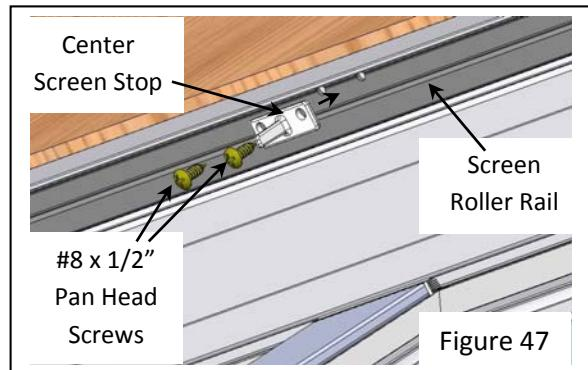

Figure 47
34) Install the center screen stop into the screen track in the head as shown (Fig. 47). Match the holes in the screen stop with the holes in the screen roller rail and install two #8 x 1/2" Pan Head screws.